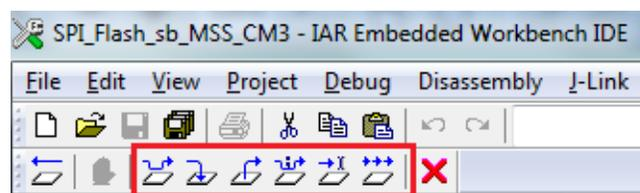

Figure 50 • IAR Workbench - Step Level Debugging
- The Step Level Debugging can be performed before running the application using Go. This can be accessed from the Debug menu or on the IAR workbench, as shown in Figure 50.
- Source code can be single-stepped by selecting from the Debug menu **Debug > Step Into**, **Debug > Step Out**, **Debug > Step Over** or selecting the respective options from the IAR workbench as shown in Figure 50. Observe the changes in the source code window and Disassembly view. Performing a Step Over provides an option for stepping over functions. The entire function is run but there is no need to single-step through each instruction contained in the function.